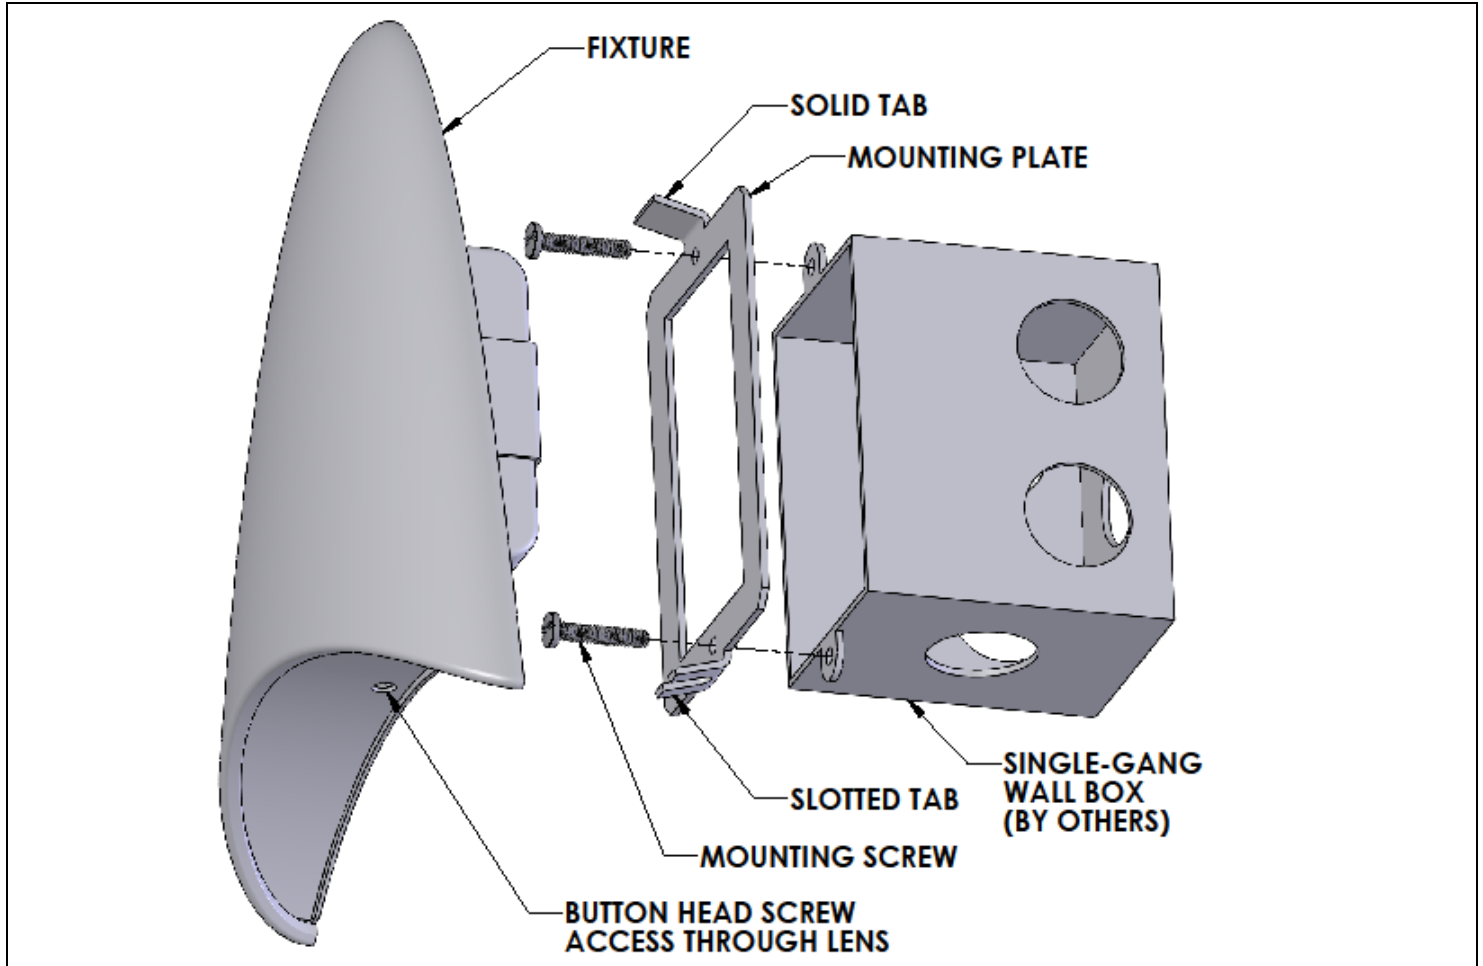

Figure 1. *Downlight shown. Rotate fixture and mounting plate 180° for upright.*
2. For best results, wall box should be flush with, not protruding from, finished wall surface. Assemble Mounting Plate to single-gang wall box (provided by others) with the two screws provided. Do not over-tighten screws or distort mounting plate. Slotted tab of mounting plate must be as shown in Figure 1 (at bottom for downlight and at top for upright). Level mounting plate prior to tightening screws.